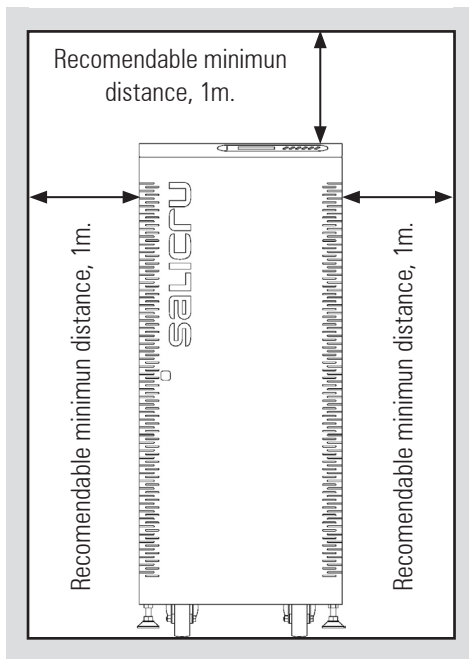

Fig. 19. Front view UPS location.
- In the Instructions of Security EK266*08 is indicated that it is necessary to leave a minimum of 25 cm in the contour of the equipment for your ventilation. Nevertheless, one recommends to leave other 75 cm. additional to facilitate the operations of maintenance of the equipment or interventions of the technical service in case of breakdown (see figures 19 and 20).